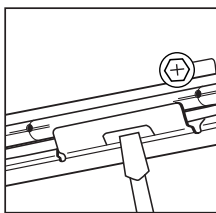

Figure 12
**Step 2.** Slide frame along bar hangers into desired location. Use locking screws or slot to secure (Fig. 12).